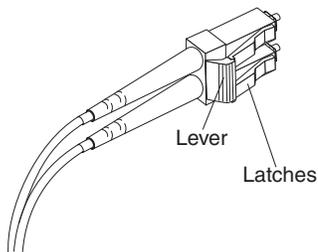

Figure 27. LC-LC Fibre Channel cable lever and latches
1. On the end of the LC-LC cable that connects into the SFP module or host bus adapter, press down and hold the lever to release the latches, as shown in Figure 27.